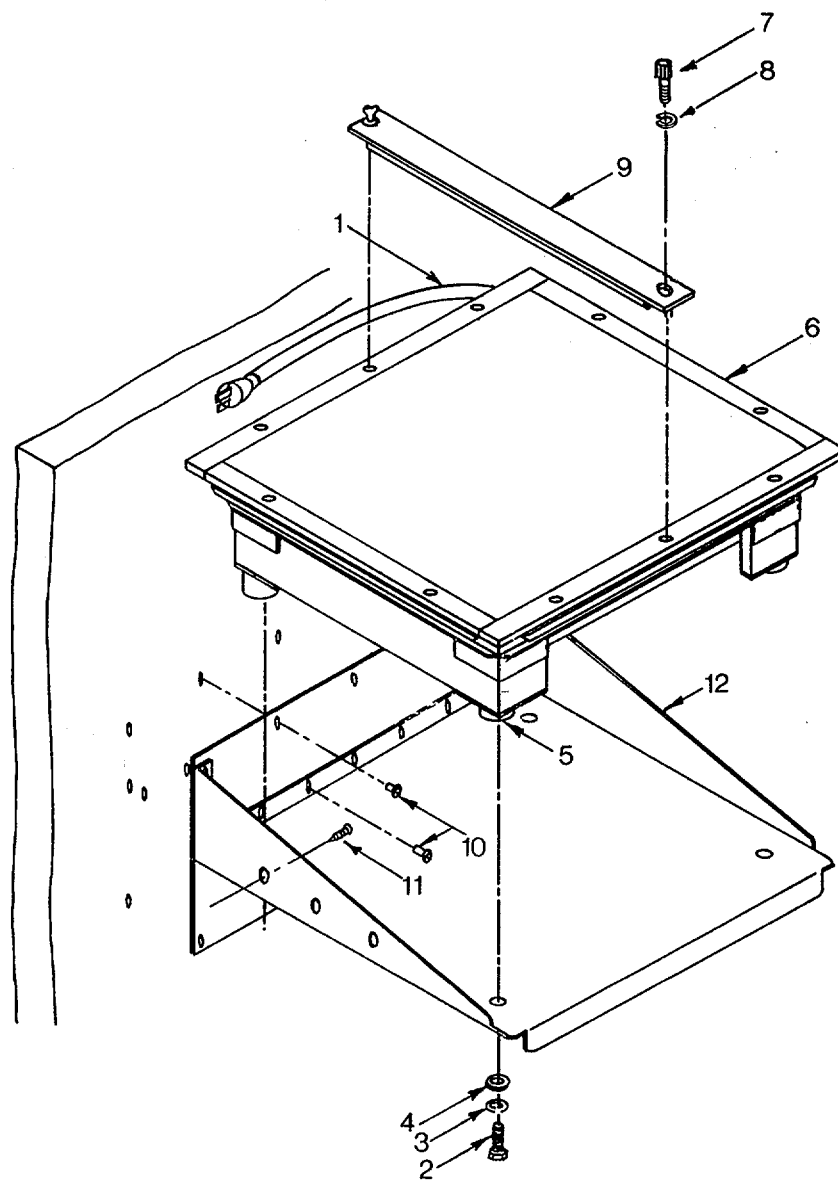

Figure 4-4. Light Table Assembly
a. Inspect. (See Figure 4-4.)
- (1) Inspect editorial room, curbside light table for security of mounting.
- (2) Check light table glass top for damage.
- (3) Check lights for proper operation.
- (4) Inspect OFF and ON switch for proper operation and for security of mounting.
b. Replace. (See Figure 4-4.)
- (1) Disconnect power cord (1).
- (2) Remove light table bolts (2), lockwashers (3), flat washers (4), and rubber legs (5).
- (3) Remove light table (6).